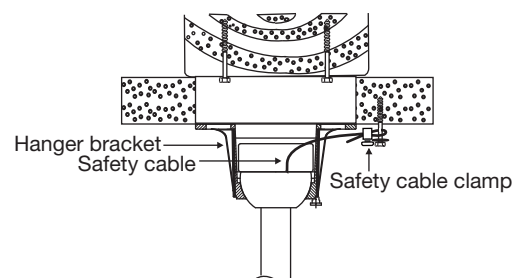

Fig. 4
NOTE: The tab opposite hanger bracket opening should fit in slot on ball. (Fig. 4)
Attach the lag bolt and flat washer to ceiling joist. Attach the safety cable to lag bolt. Slide cable clamp onto safety cable (from fan). Place the end of cable through the lag bolt. Pull as much cable through lag bolt as possible. Feed end of cable into clamp hole and firmly tighten screw (Fig. 4). Cut off excess safety cable.
- 5 Carefully tuck the wire connections inside the junction box. Secure the wall switch with the two screws provided. (Fig. 4)
- 5 Attach the wall plate over the wall switch and secure with the two screws provided. (Fig. 4)